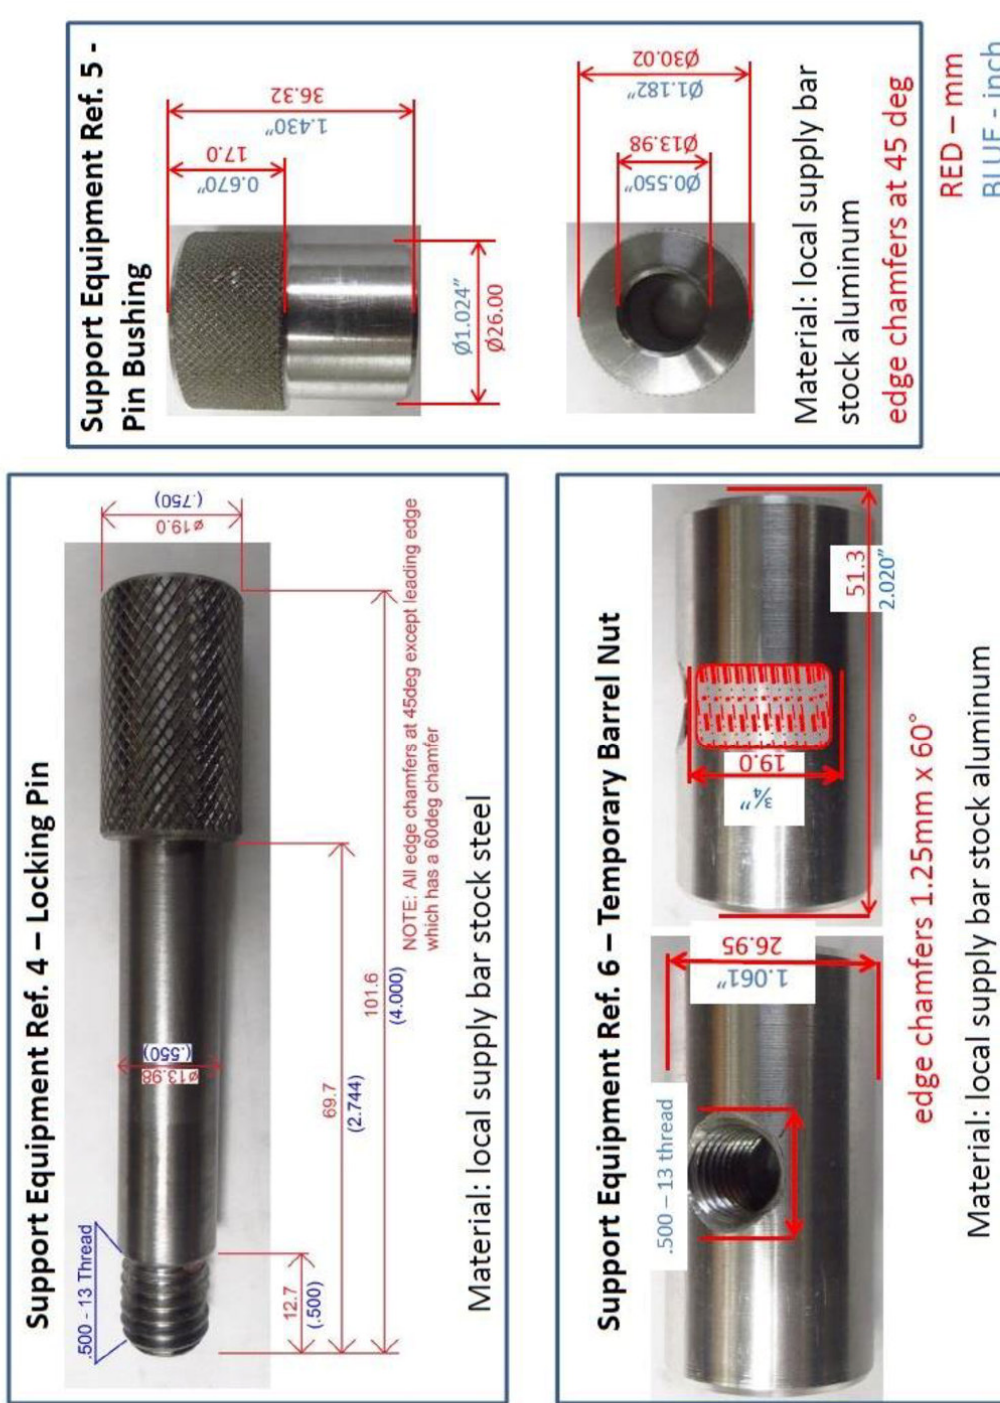
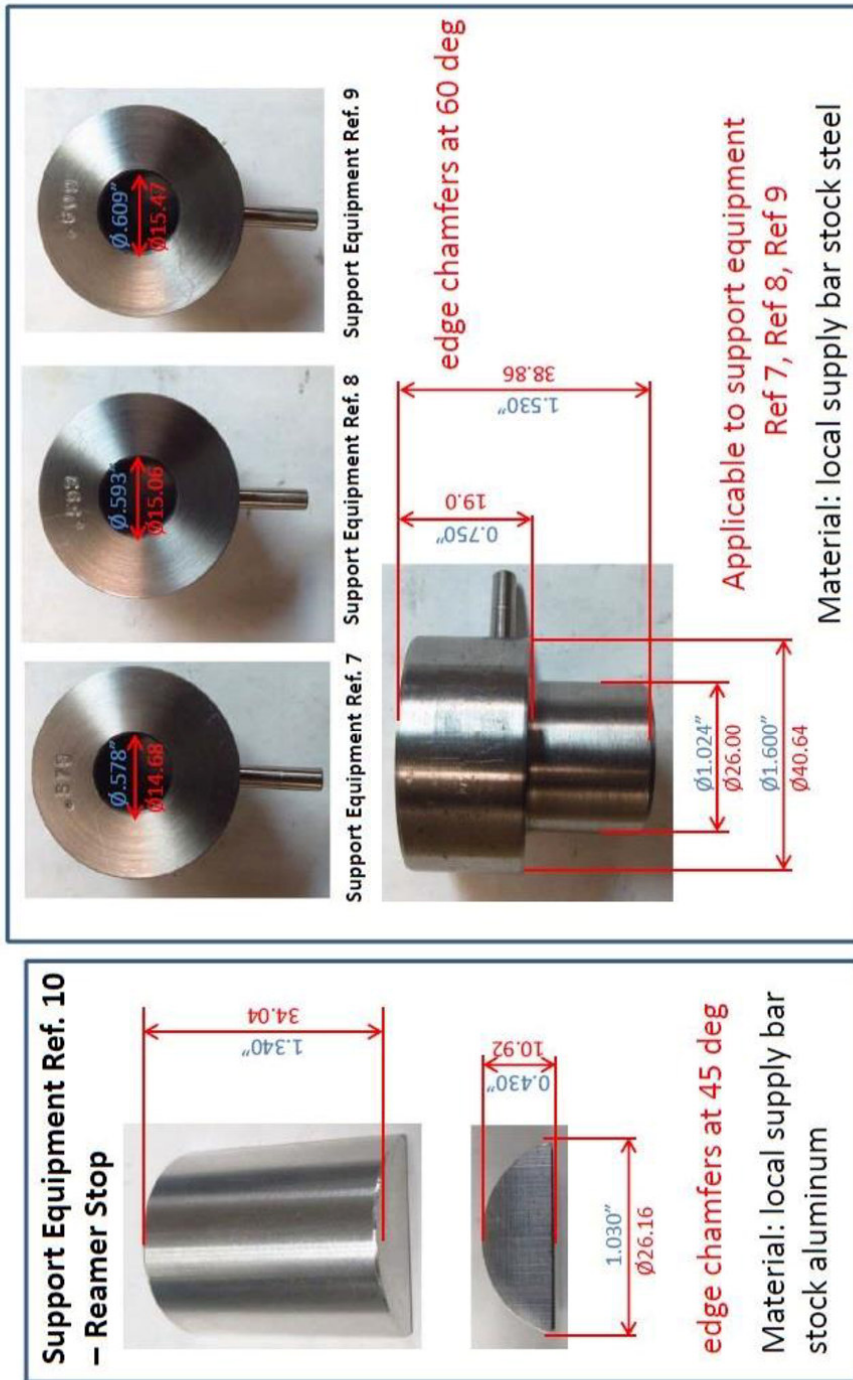

Figure 1 – Alignment Set
Figure 2 – Reaming Set
1. If not already supplied with tool (Support Equipment Ref.3), fabricate the alignment set shown in (Fig.1) and the reaming set shown in (Fig.2).
- 1. Figure 1 – Alignment Set
- 2. Figure 2 – Reaming Set